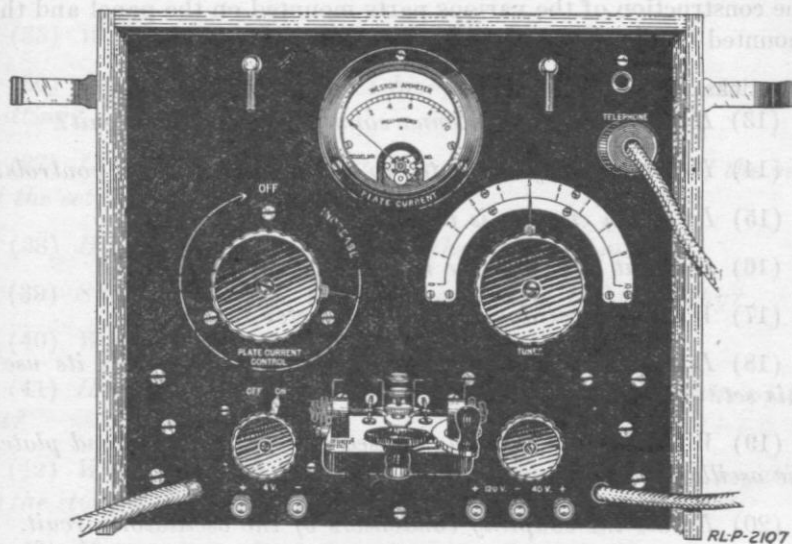

Fig. 99.—Set box, type BC-9 with front cover removed.
3. Turn the two catches on the upper edge of the panel and swing the panel forward. (See Figs. 99 and 100.) Reach inside the set box and on the bottom will be found three thumb nuts. Remove these